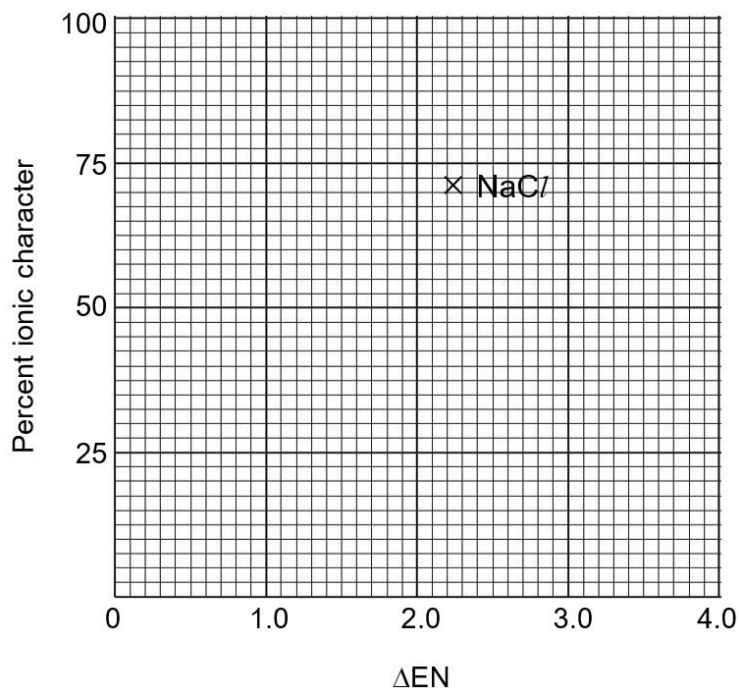

Fig. 7.1
The ionic character of a bond is directly related to the electronegativity difference, ΔEN , between the bonded atoms. Fig. 7.1 shows the plot of percent ionic character against ΔEN for NaCl.
- (iii) Using the values in Table 7.1, calculate ΔEN for AlCl_3 and PCl_5 respectively. Hence plot the percent ionic character of AlCl_3 and PCl_5 on Fig. 7.1. Label your points clearly.